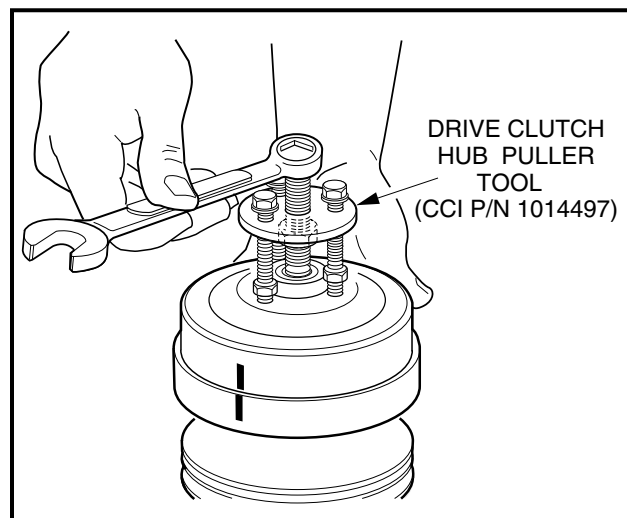

Figure 17-6 Remove Clutch Drive Hub
- 2.2. Thread the center bolt of the Drive Clutch Hub Puller (CCI P/N 1014497) into clutch until the stop nut touches the clutch hub or the bolt bottoms out, then back the bolt out one-half turn (Figure 17-6, Page 17-6).
- 2.3. Thread the three small bolts of the puller into the puller attachment holes in the clutch. Tighten bolts evenly, making sure the face of the puller plate is parallel to the clutch face (Figure 17-6, Page 17-6).